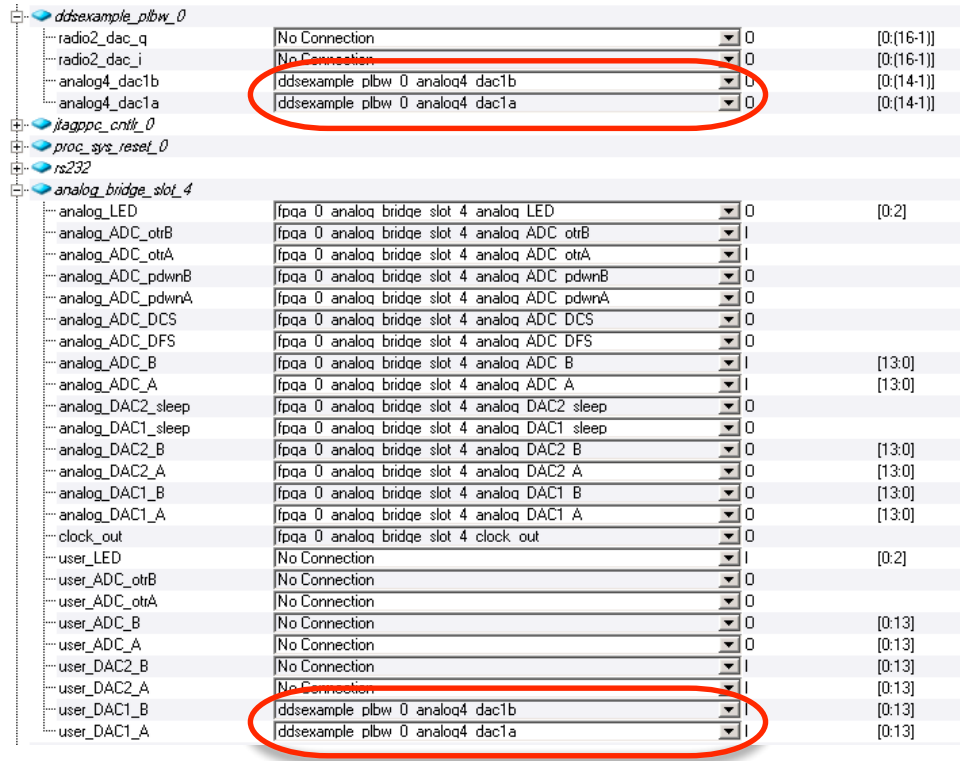

Figure 1: Custom core and analog bridge ports
8. When complete, your ports list should look like those shown in Figure 1.